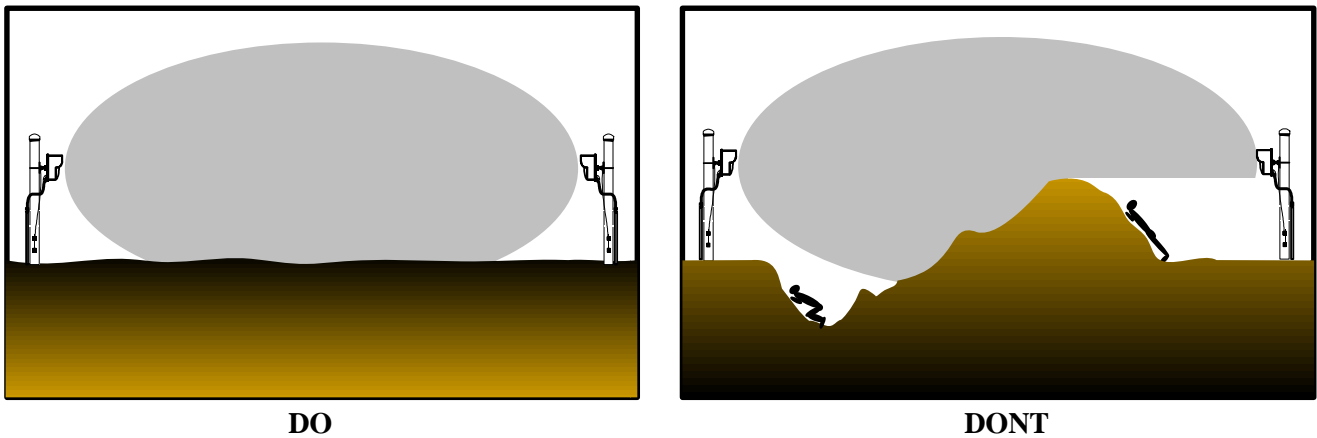

Figure 12 – Terrain
Since the operation of Link requires transmission of energy from Transmitter to Receiver, it is important to maintain a clear line of sight between the units. Therefore, the ground must be flat across the protected area. Any bumps, hills or ditches in the area will shadow the beam and may provide crawl space for an intruder. Bumps or hills must be leveled, and ditches filled so that the area is flat to within six (6) inches (152mm) as shown in Figure 12.